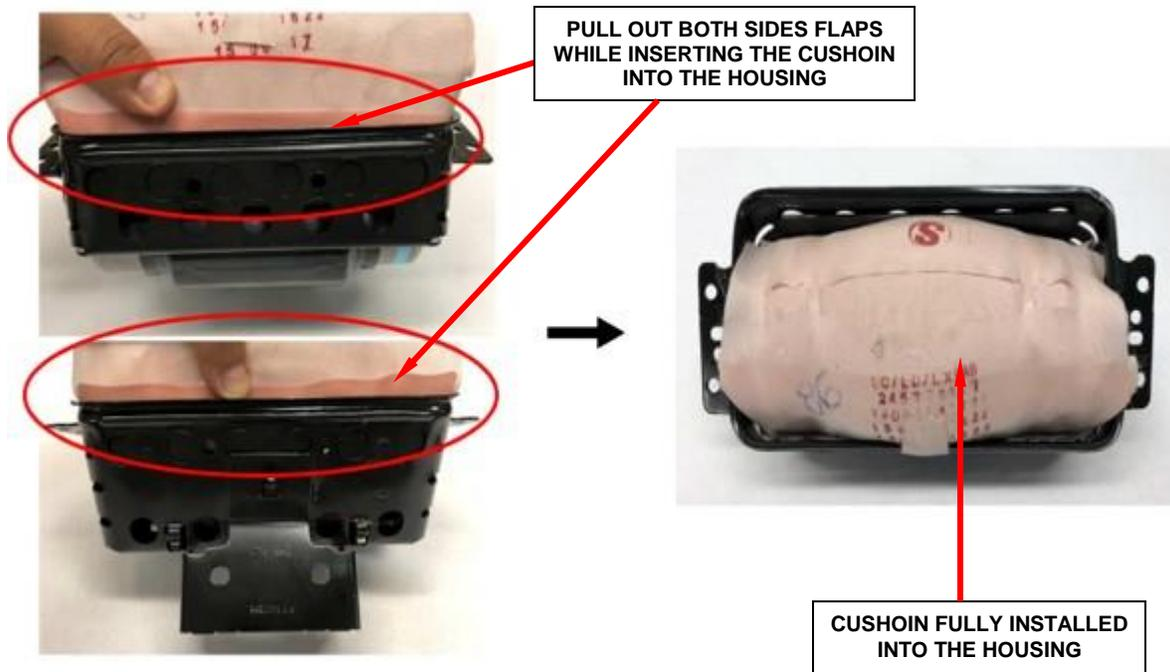

Figure 35 – Side Flaps Must Be Held Out
- i. Insert the cushion, pulling out both side flaps (Figure 35).